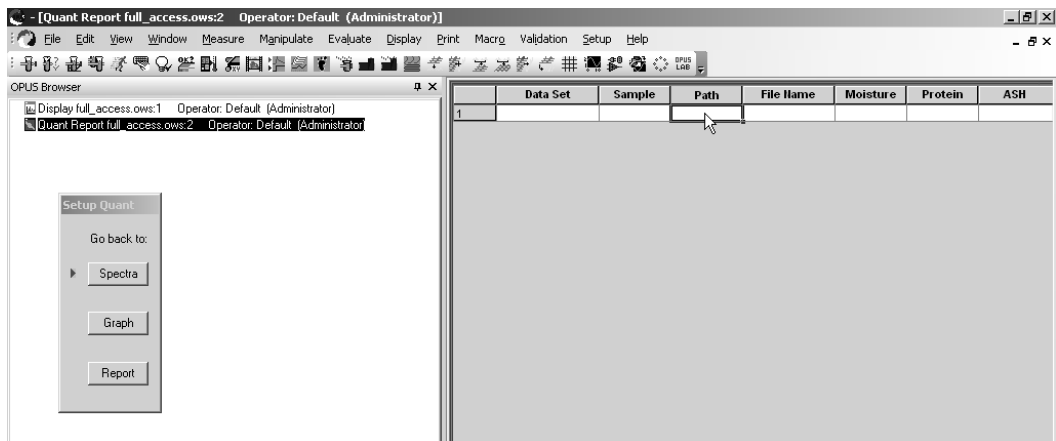

Figure 124: QUANT Setup Assistant
- Click in the *Setup Quant 2 Method* window on the *Spectra* tab and then on the *Window* button. As a result of this, the QUANT setup assistant is embedded in an OPUS window. Among other columns, the table includes also columns labeled with the component names you have entered before. See figure 124.